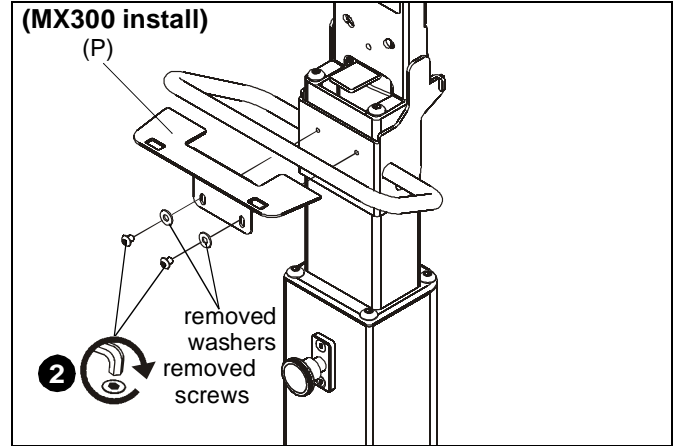

Figure 6
2. Use screws and washers removed in Step 1 to secure MX300 back cover bracket (P) to column assembly. (See Figure 6)